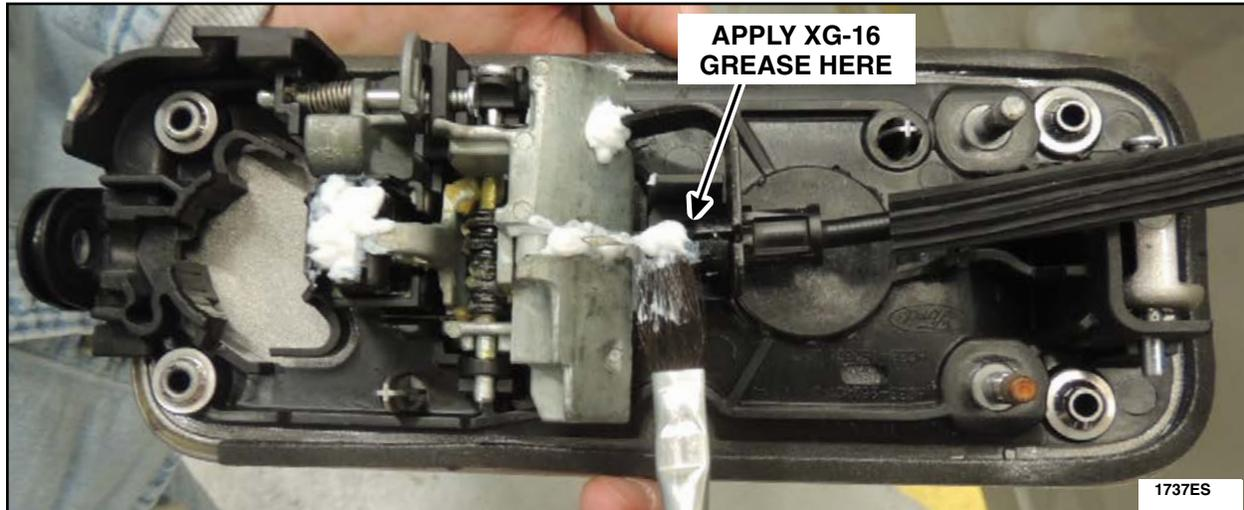

FIGURE 100
24. Reconnect the exterior door handle cable to the door handle, then lubricate the door handle cable end with XG-16 low temperature grease as shown in Figure 100.